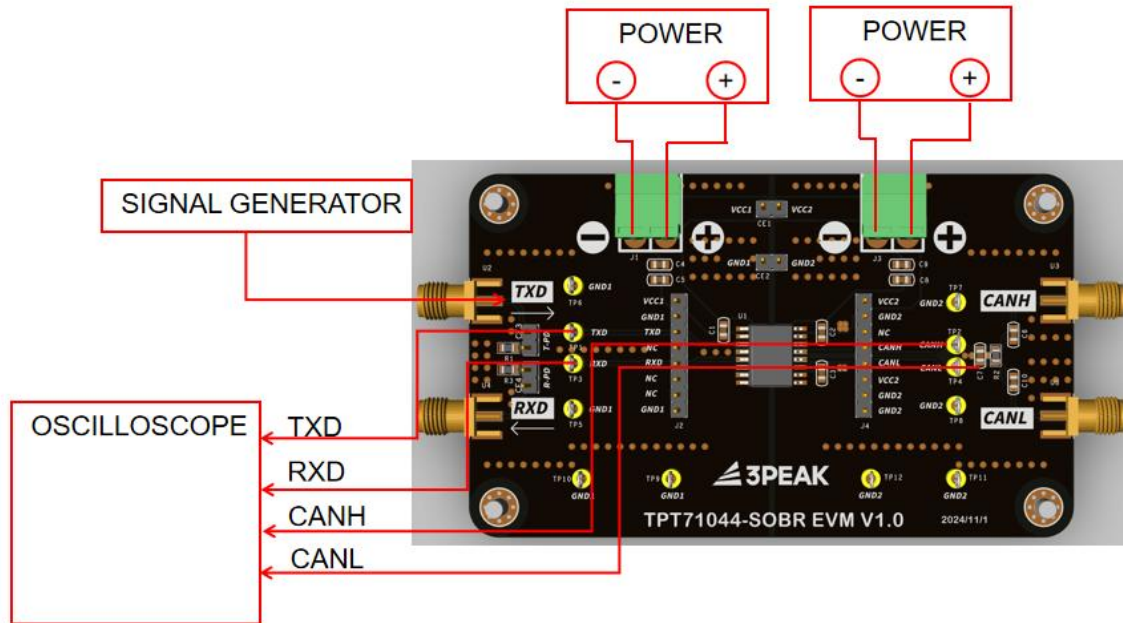

Figure. 3 EVM Test Setup
Referring to Table.3, the recommended connections to evaluate TPT71044-EVM is shown in Fig.3.
- Set up the EVM as described in Fig.3.